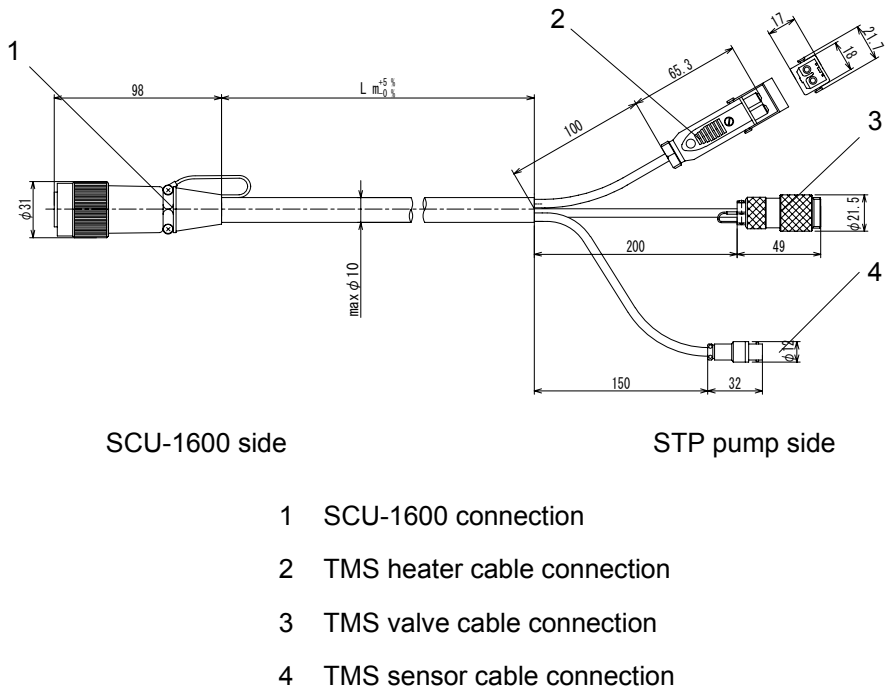

Figure 17 - TMS connection cable (with sensor cable)
Note: Figure 15 to Figure 17 show typical TMS cables. For details of the TMS cable used with the connected pump module, refer to the STP pump Instruction Manual (B).